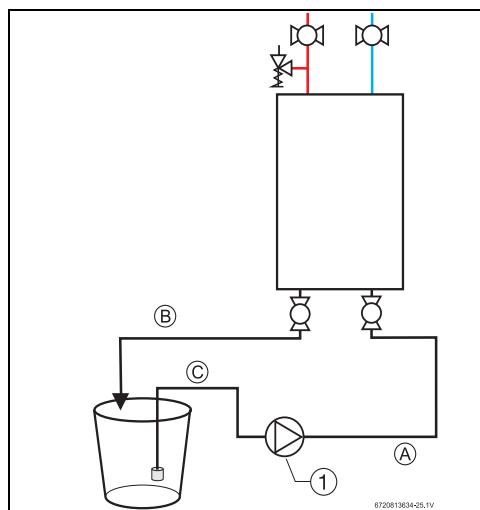

Fig. 55
- ▶ Connect a line (A) from the outlet of the circulating pump (installer supplied) to the inlet water fitting on the water heater (see fig. 55).
- ▶ Using another line (B), connect the water outlet fitting on the water heater. Route the other end of this line into a descaling reservoir.
- ▶ Using a 3rd line (C) from the descaling reservoir, connect to the inlet side of circulating pump. Install a filter on the end of the line in the descaling reservoir.